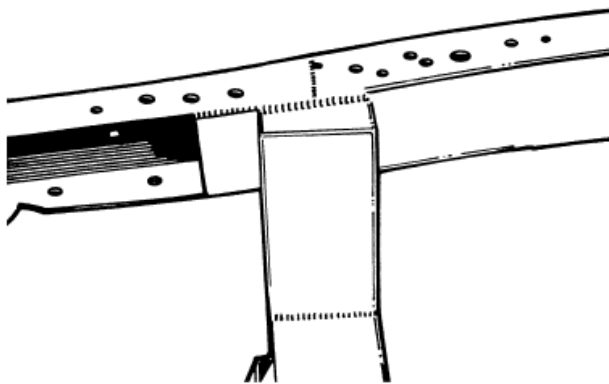

Figure 6- Crossmember Install
9. Now it is time to start fitting and installing the new crossmember in the frame. Slip the crossmember up into the frame, center it on the scribed axle center line (**Figure 6**). If it does not fit, check that your frame is the correct width. It should be 30-5/16" wide at the axle center line (scribed line). If it is that dimension, then grind the sides of the crossmember until you can get the crossmember in place, as shown. Tack weld in place, check location, then weld in place, welding all around both ends, top, sides, and bottom. If you installed a temporary brace across the rails, you can now remove it.